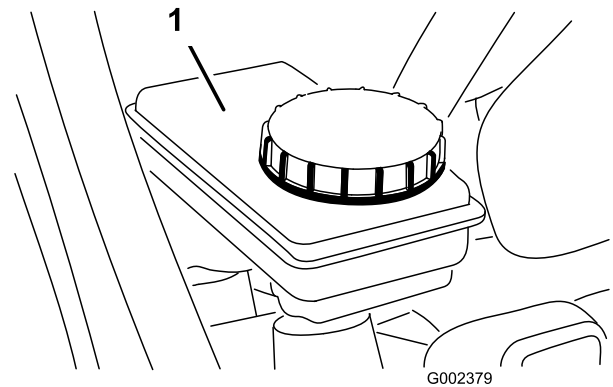

Figure 19
2. The fluid level should be up to the Full line on the reservoir (Figure 19).